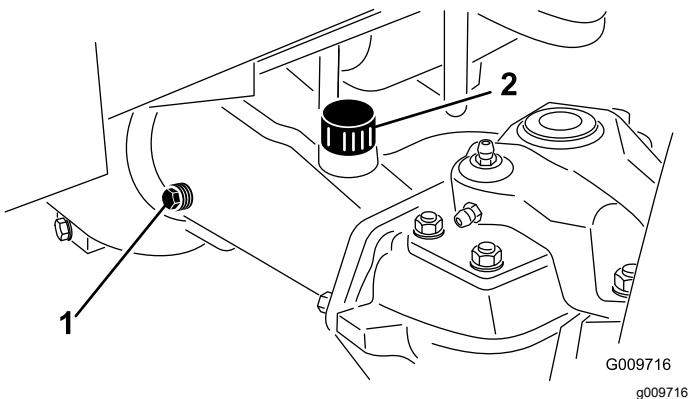

Figure 143
2. Remove a check plug from 1 end of the axle housing (Figure 143).